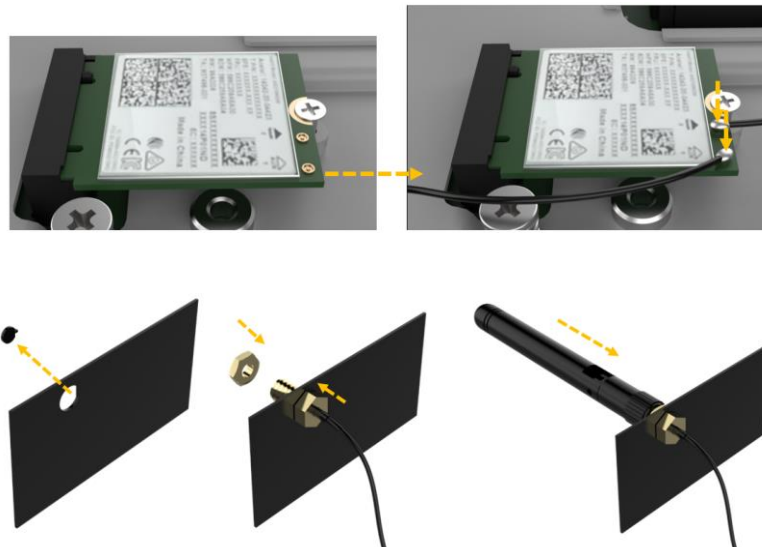

Figure 3-8: Wi-Fi Module Installation
Step 5: Install the external antennas (**Figure 3-8**)